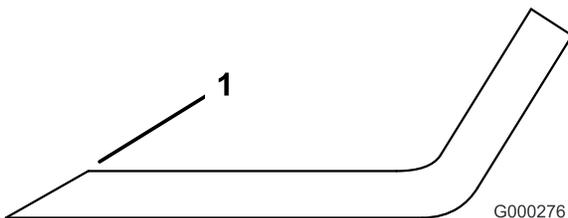

Figure 84
1. Use a file to sharpen the cutting edge at both ends of the blade (Figure 84). Maintain the original angle. The blade retains its balance if the same amount of material is removed from both cutting edges.